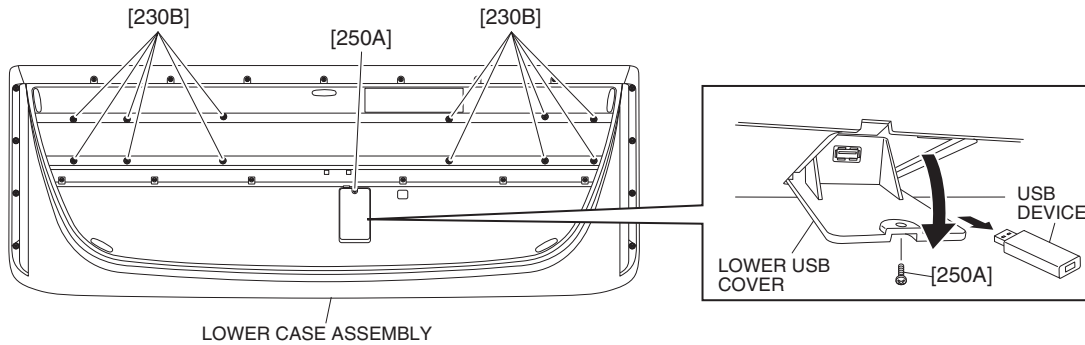

Fig. 17
* **Before disassembly, disconnect the USB device underneath the instrument. (Fig. 17)**
- 25-1 Remove the twelve (12) screws marked [230B]. (Fig. 17)